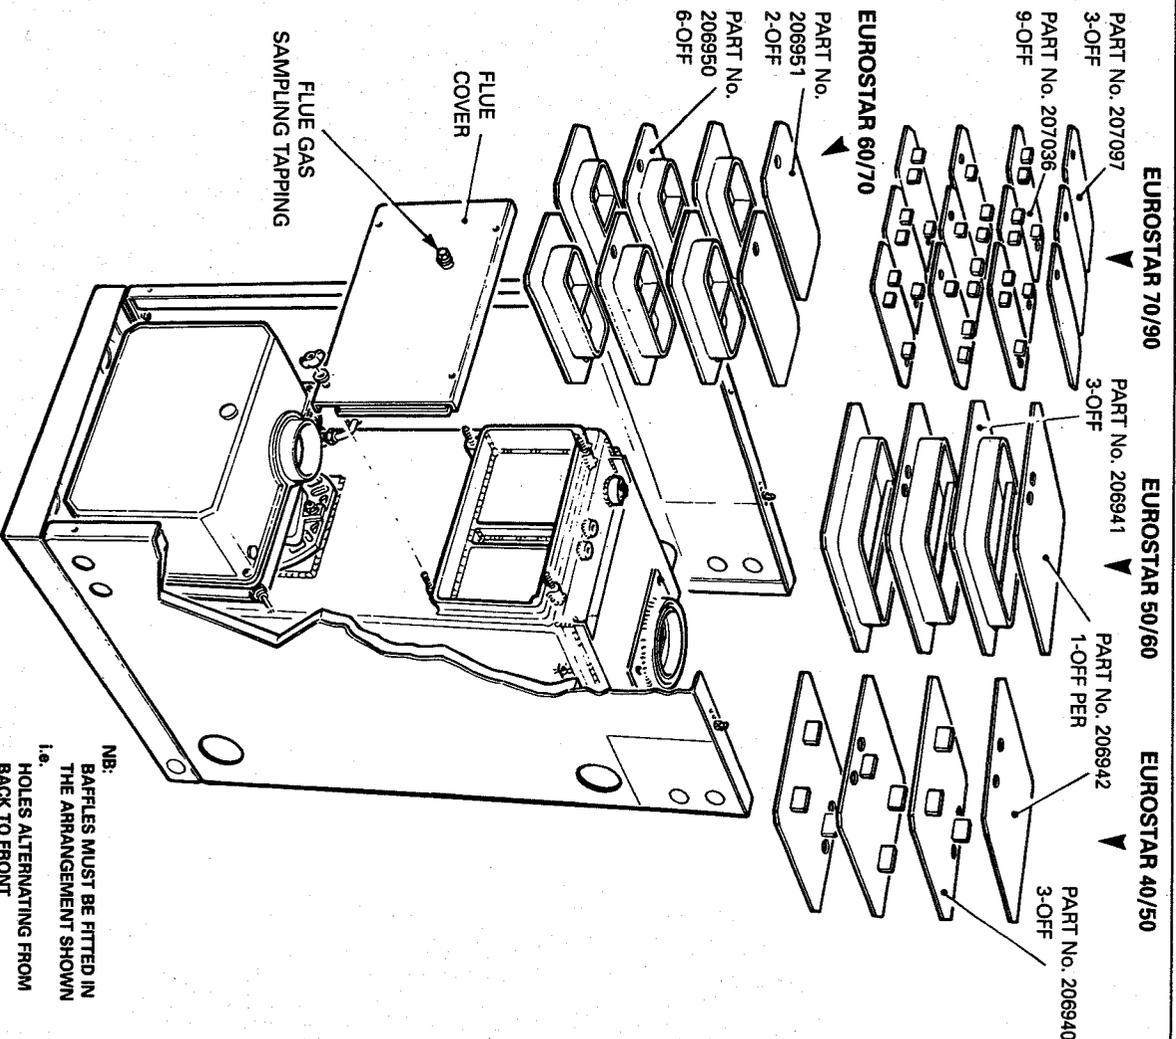

FIG. 21 BAFFLE DETAILS FOR TRIANCO REDFYRE 'EUROSTAR' OIL FIRED BOILERS
4. Replace flue-baffles in the correct arrangement (see Fig. 21 for order of assembly). Refit flue-cover and fully tighten wing-nuts to make a gas tight seal.
1. Remove flue-cover and lift out flue-baffles (Fig. 21).